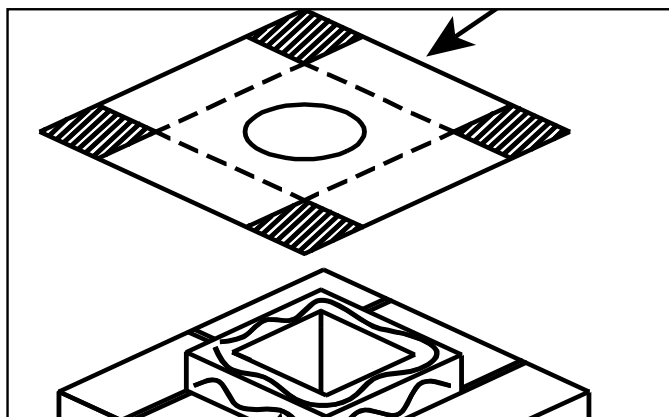

Figure 4.24
3. Secure the flashing to the top of the masonry chimney using a bead of non-hardening sealant-adhesive. If the flashing is larger than the top of the chimney, cut and fold flashing as needed to fit chimney. See Figure 4.24.